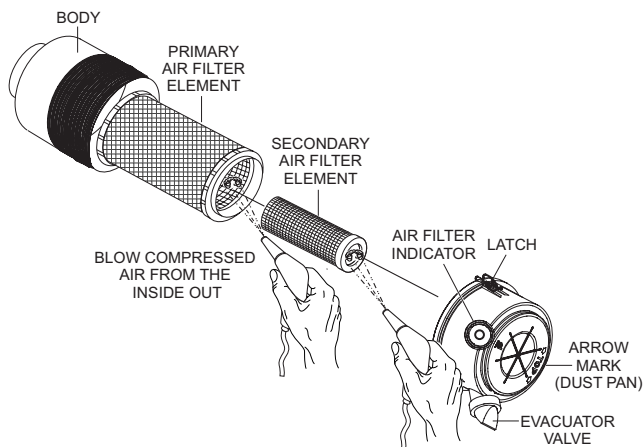

Figure 64. Engine Air Cleaner
This Isuzu diesel engine is equipped with a replaceable, high-density, paper air cleaner element (Figure 64). The air cleaner is also equipped with an inner (secondary) element that is used as a backup filter should the primary element become damaged. Check the air cleaner daily or before starting the engine. Replace the air cleaner as needed.
1. Release the latches that secure the cover to the air cleaner body (Figure 64).
2. Remove the air cleaner cover (Figure 64) and set it aside.
3. Remove both the primary and secondary air cleaner elements (Figure 64).
5. To clean the primary element (paper air filter) as shown in Figure 64, tap the filter element several times on a hard surface to remove dirt, or blow compressed air, not to exceed 30 psi (207 kPa, 2.1 kgf/cm²), through the filter element from the inside out.
8. Clean the inside of the air cleaner body (Figure 64).